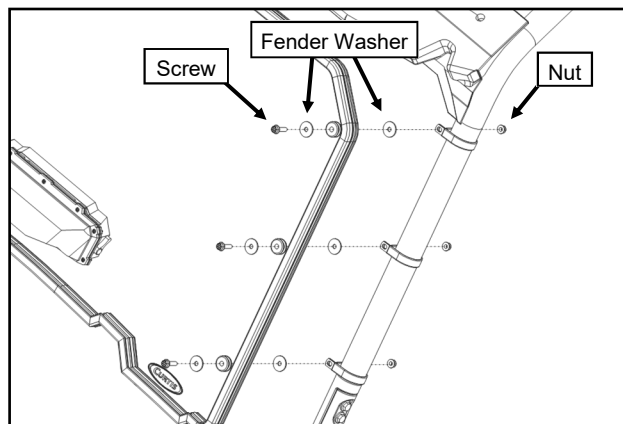

Fig. 1.4 (Windshield Hardware)
1.4 Secure the windshield assembly to the P-clamps installed during steps 1.1 & 1.2. See figure 1.4 for hardware orientation. Do not overtighten fastener or damage to the window may occur. Stop tightening when grommet just starts to bulge.